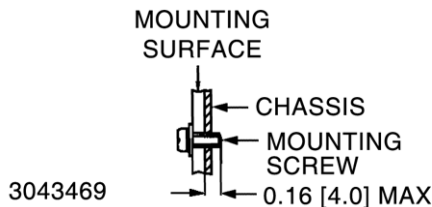

FIGURE 1. MOUNTING SCREW PENETRATION
**MOUNTING THE POWER SUPPLY.** Refer to Figure 1. The unit may be mounted using 6-32 mounting screws (not supplied). Eight mounting holes are provided: four on the base, and two on each side. Note the restrictions for maximum penetration of mounting screws (see Figure 1).